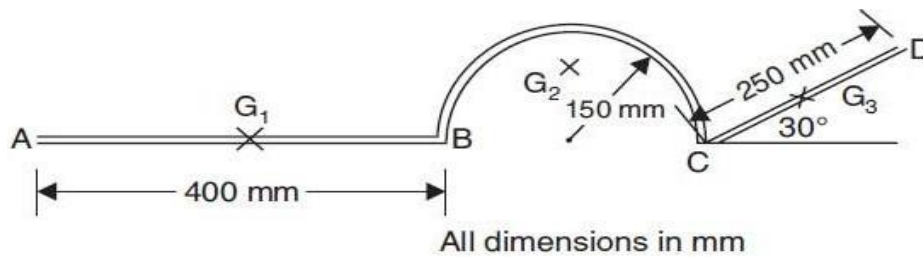

Fig.14
3. Locate the centroid of the uniform wire bent as shown in Fig.14 [L4][12 M]